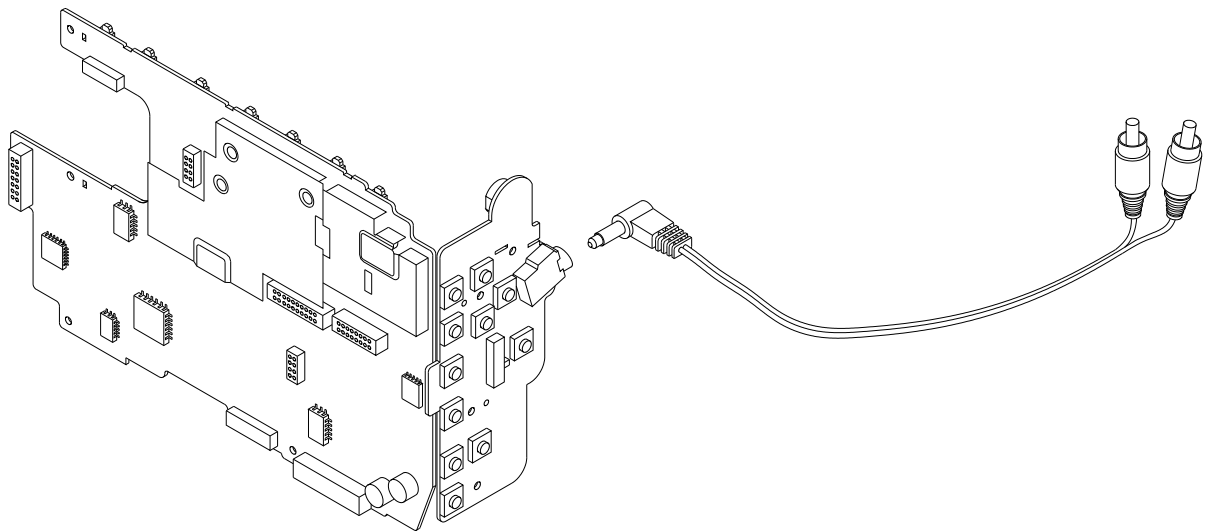

Fig. 2 Video Signal Connection
- Connect the video cable to pattern generator and ass'y A/V Jack, so that video in/out signal is adjusted automatically as shown below (Fig.2).